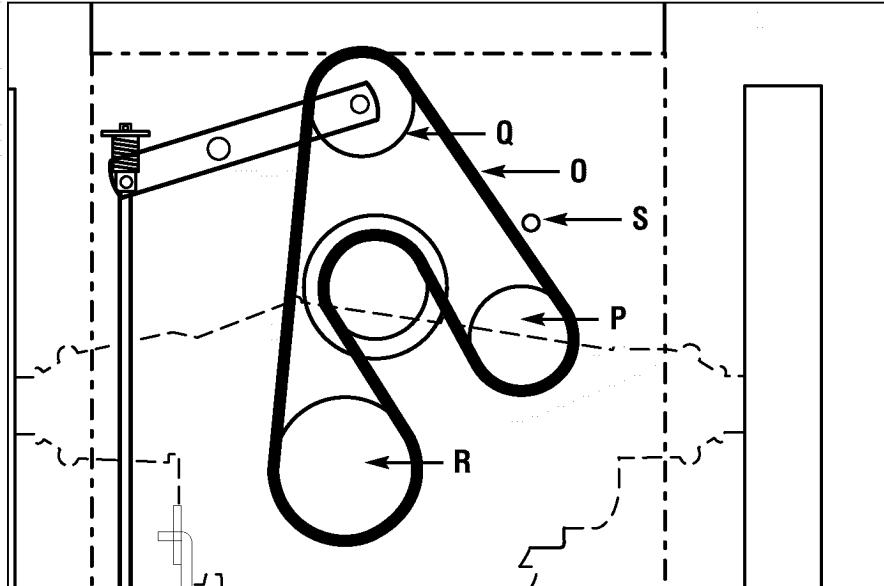

Figure 5-11: Wheel drive belt replacement.
4. Locate wheel drive belt (O, Figure 5-11) and remove it from top sheave of engine sheave, backsided idlers (P and Q) and transmission sheave (R).
5. Install new belt as shown in Figure 5-11. Belt must be installed "inside out" – "V" side of belt lies against engine sheave only. Flat side of belt lies against transmission sheave (R) and back-sided idlers (P and Q).
6. Make sure belt is inside belt guide (S, Figure 5-11).